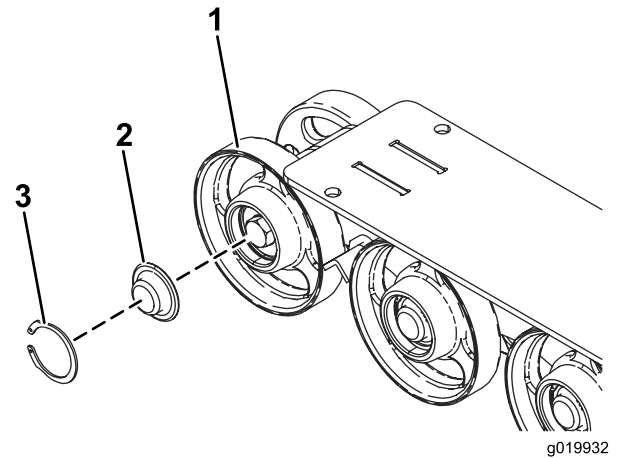

Figure 51
3. Remove the snap ring and cap from a road wheel (Figure 51).
4. Check the grease under the cap and around the gasket (Figure 51). If it is dirty, gritty, or depleted, clean out all of the grease, replace the gasket, and add new grease.
6. Place the greased road wheel cap over the bolt head (Figure 51).
7. Secure the road wheel cap with the snap ring (Figure 51).